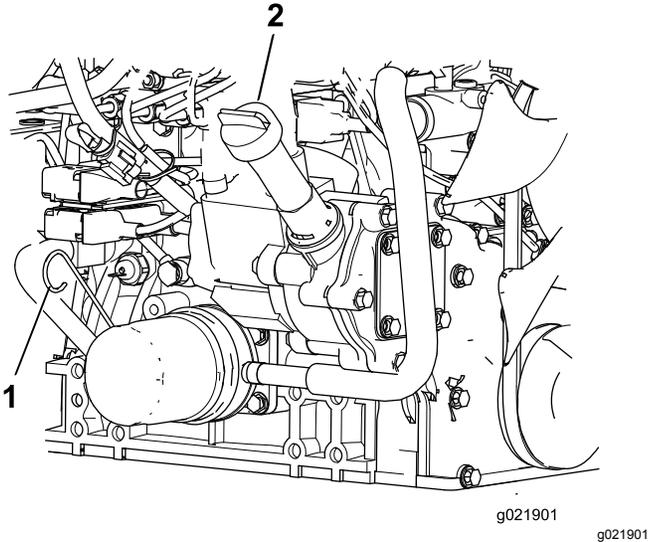

Figure 85
3. Remove the dipstick, wipe it clean, install the dipstick into the tube, and pull it out again. The oil level should be between the FULL and ADD marks (Figure 85).
4. If the oil level is low, remove the fill cap and add oil until it is between the FULL and ADD marks (Figure 85).